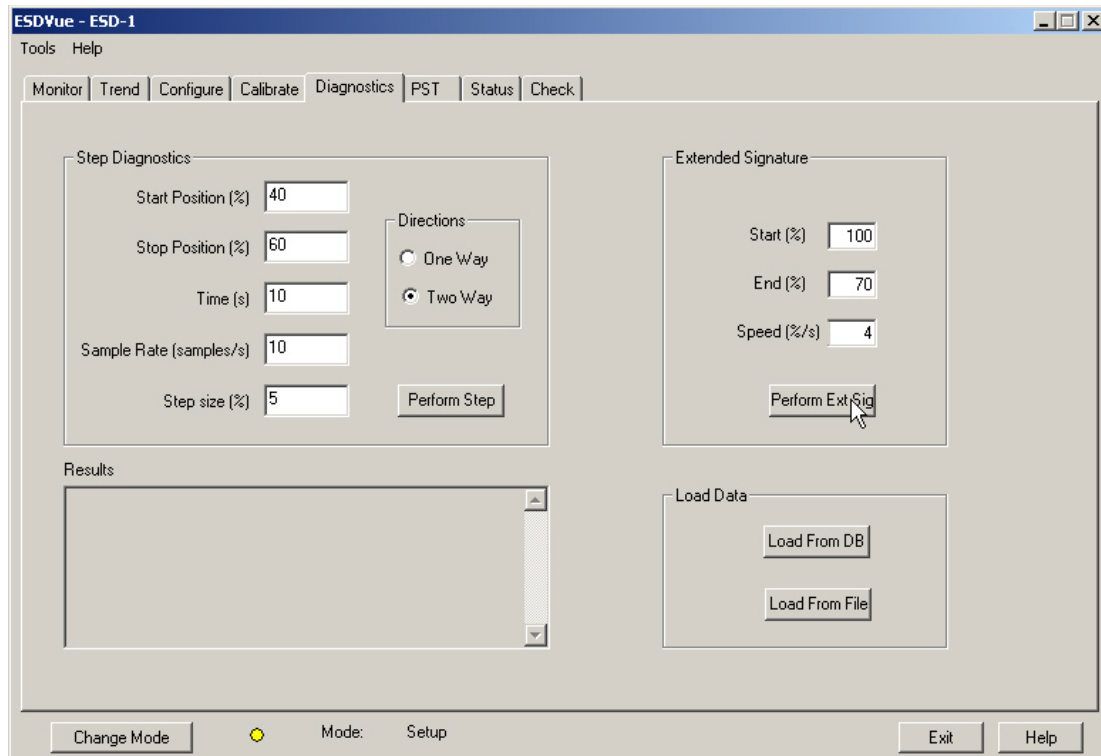

Figure 202 - Executing Perform Ext Sig
4. Click **Perform Ext Sig** (*Figure 202*).